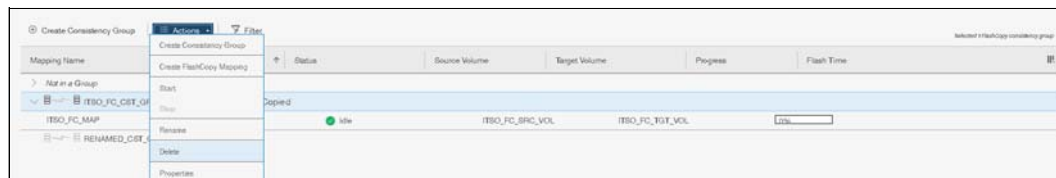

Figure 10-66 Delete Consistency Group action
3. Click **Actions** → **Delete**, as shown in Figure 10-66.